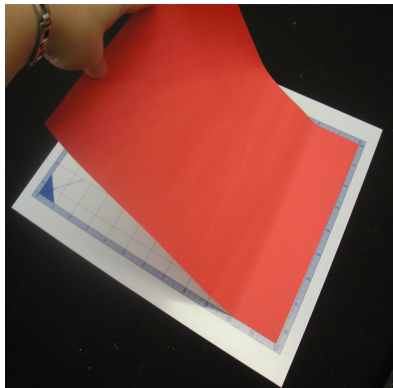

Figure 17
- 2 Place your paper on the mat inside the blue border, on the sticky part of the mat. See figure 17 .